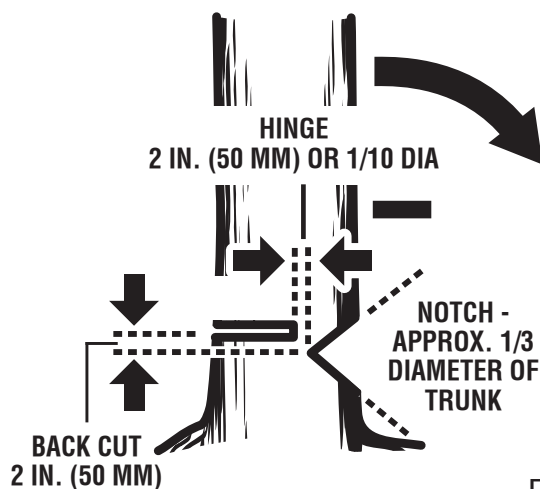

Fig. 20
- **Notched Undercut.** Cut a notch about 1/3 the diameter of the tree as shown in figure 20. Make the cuts of the notch so they intersect at a right angle to the line of fall. This notch should be cleaned out to leave a straight line. To keep the weight of the wood off the saw, always make the lower cut of the notch before the upper cut. *See Figure 20.*
- **Felling Backcut.** The backcut is always made level and horizontal, and at a minimum of 2 in. above the horizontal cut of the notch. *See Figures 20 - 21.*
- Never cut through to the notch. Always leave a band of wood between the notch and backcut (approximately 2 in. or 1/10 the diameter of the tree). This is called “hinge” or “hingewood.” It controls the fall of the tree and prevents slipping or twisting or shoot-back of the tree off the stump. *See Figures 20 - 21.*